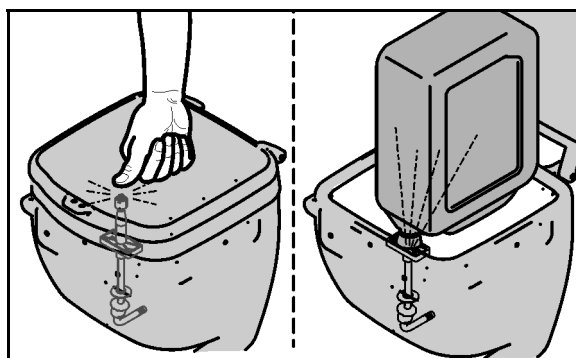

Fig. 52
- the closed folding cover is pressed downwards (Fig. 52).